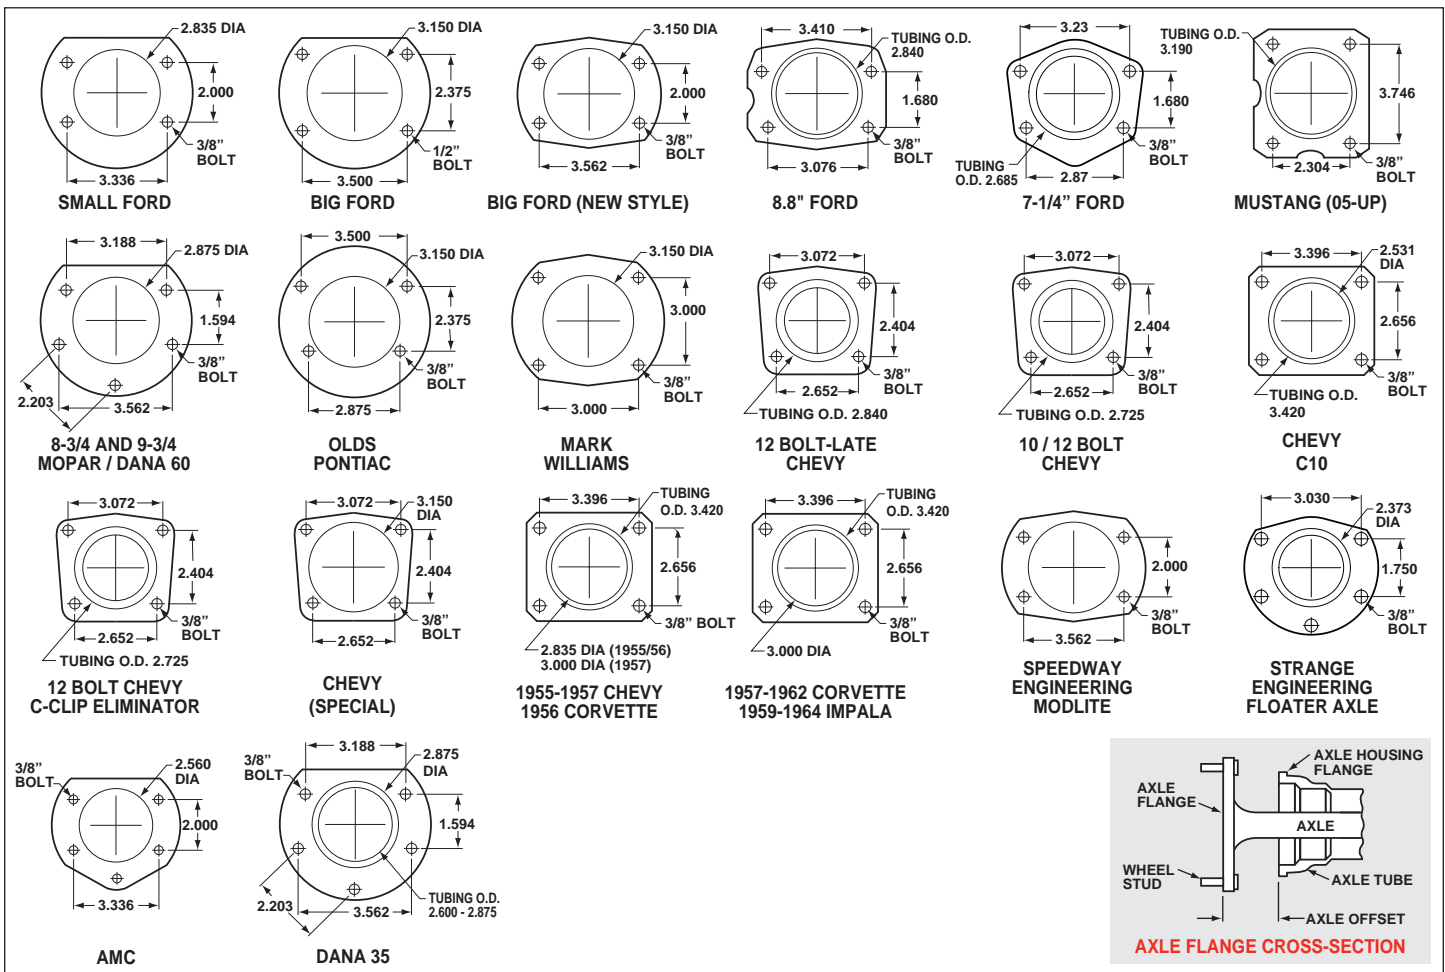

Figure 6. Rear Housing Flange Chart and Axle Flange / Offset Cross-Section
- Make sure this is the correct kit to fit your axle housing flange and axle offset. Multiple rear axle assemblies were available on 1966-77 Ford Broncos. Using Figure 6, check that your rear axle matches the description on page 1 of these instructions (i.e. Big Bearing Ford, 2.36 Offset).
- Dimension from wheel side of axle flange to wheel side of axle housing flange (see Figure 6, lower right hand corner). This dimension is critical to ensure proper alignment of the rotor to the caliper, and should match offset given in the kit description.